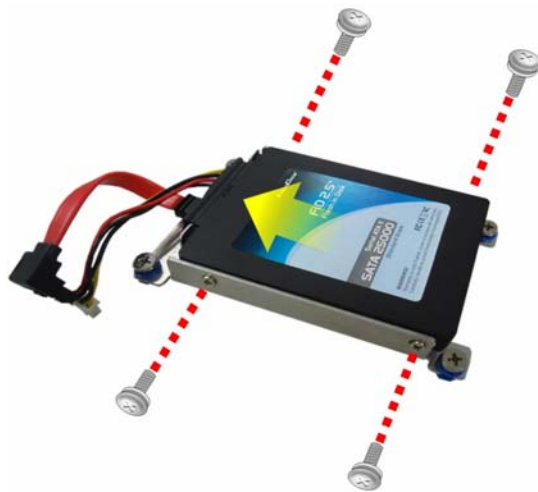

Figure 3-9: HDD Installation
- Step 6:** Secure the HDD with the HDD bracket by four retention screws (**Figure 3-9**).